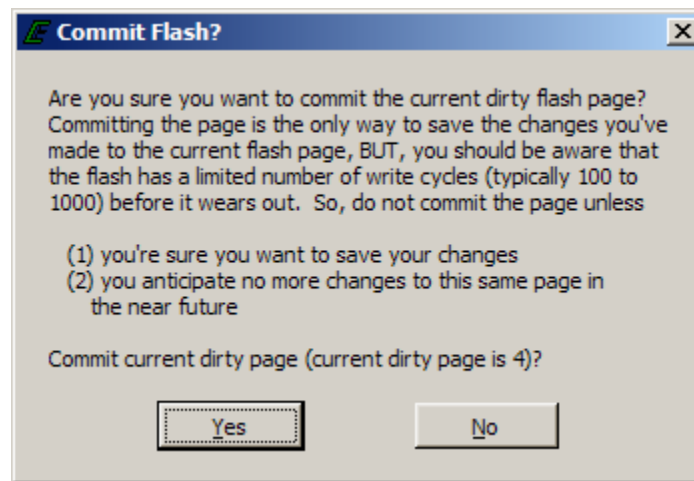

Figure 20: Commit Dirty Page Prompt
- ***Commit Dirty Page:*** Transfers updated calibration variables from ECM RAM to flash memory. Committing variables to flash permanently stores the variables from a flash page allowing variables on different flash pages to be updated. A 'Dirty' page refers to a flash page that has update calibration variables in RAM that have not been updated in Flash. If a page is 'Dirty' and battery power is removed from the ECM updated variables revert back to values stored in Flash. Once a page has been flashed, the page is no longer 'Dirty.' Upon selecting Commit Dirty Page, the prompt in Figure 20 will be displayed.